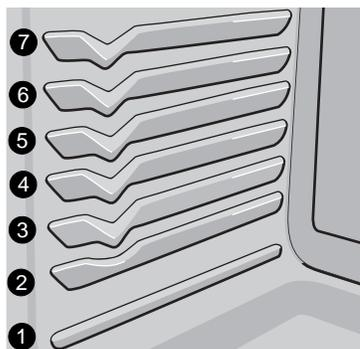

Figure 10: Oven rack positions
- For best results when baking cakes or cookies using two oven racks, place racks in positions 3 and 6 (See Figure 10).